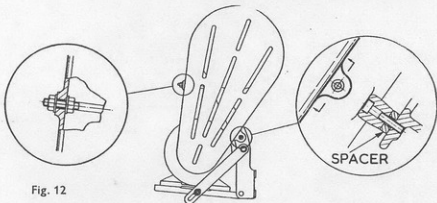

Fig. 12
*i* Attach the motor base link (with flanges innermost), and secure the motor base in a horizontal position. Place the motor and lightly tighten the bolts. If the motor is not required for reversing duty, it is recommended that the correct rotation be set before mounting. Rotation should be clockwise when viewed from the pulley end. Instructions for reversing rotation are usually contained in the motor terminal box. Assemble the motor pulley on to the motor shaft. Screw in the countershaft belt guard support stud (10), until tight, and attach the countershaft belt guard. See Fig. 12.